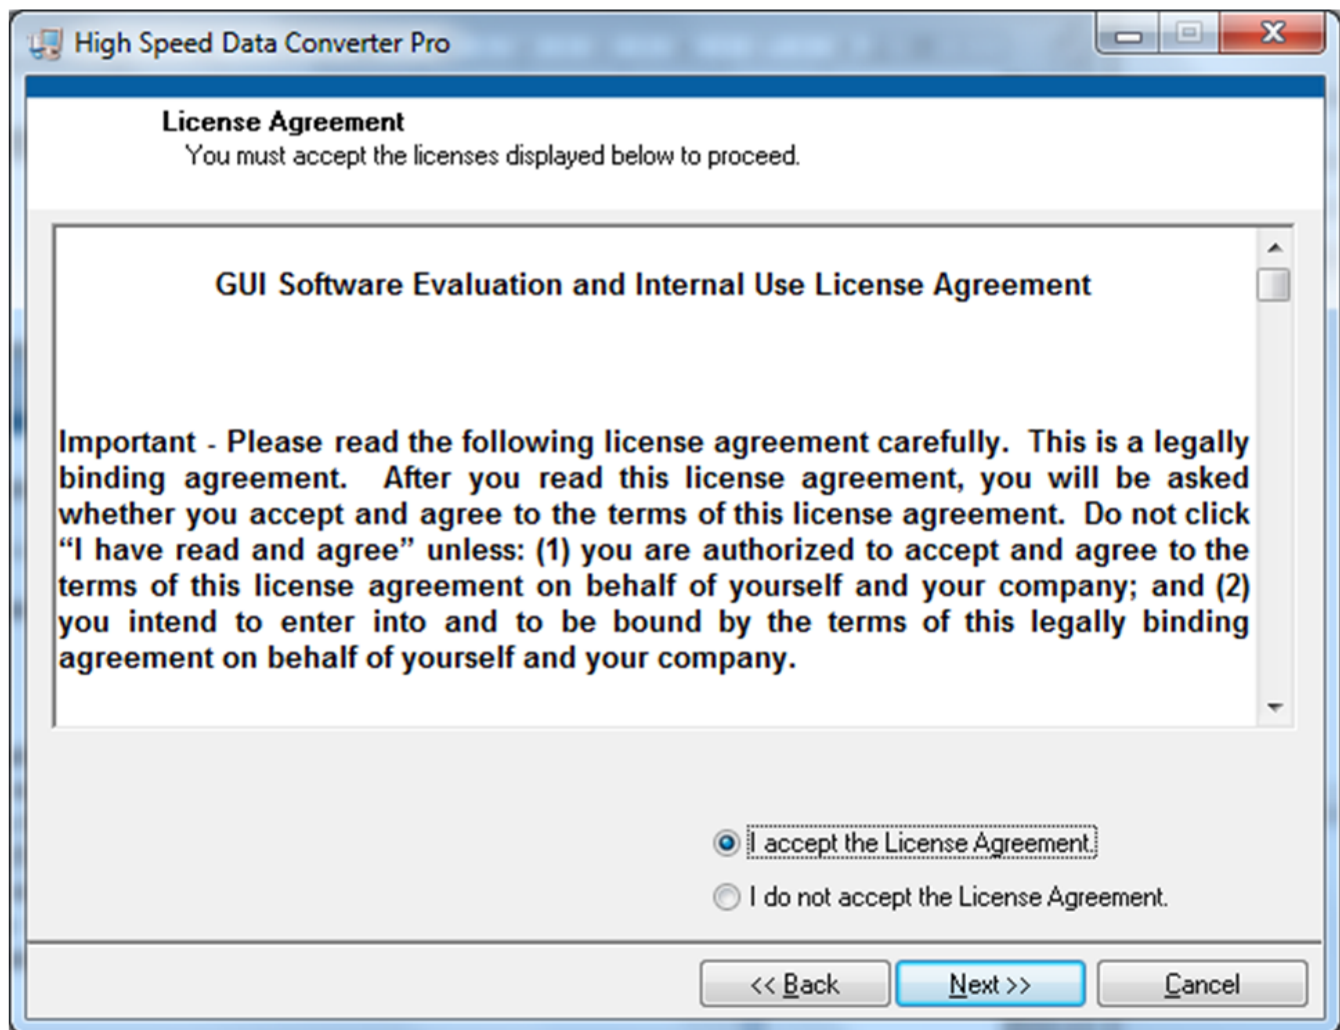

Figure 34. HSDCPro Install (TI License Agreement)
- Read the License Agreement from Texas Instruments and select *I accept the License Agreement* and press the *Next* button as shown in Figure 34.